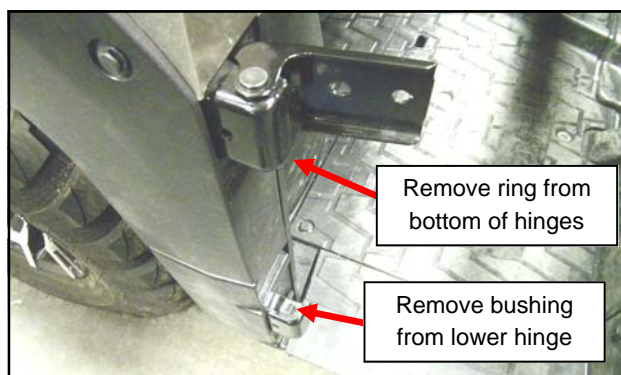

Fig. 1.3 Factory door hinges (4)
**1.3** Per figure 1.3, remove all (4) factory door hinges by removing the retaining ring and pin from each hinge. Remove the plastic bushing from the lower front hinge on both sides of the vehicle.